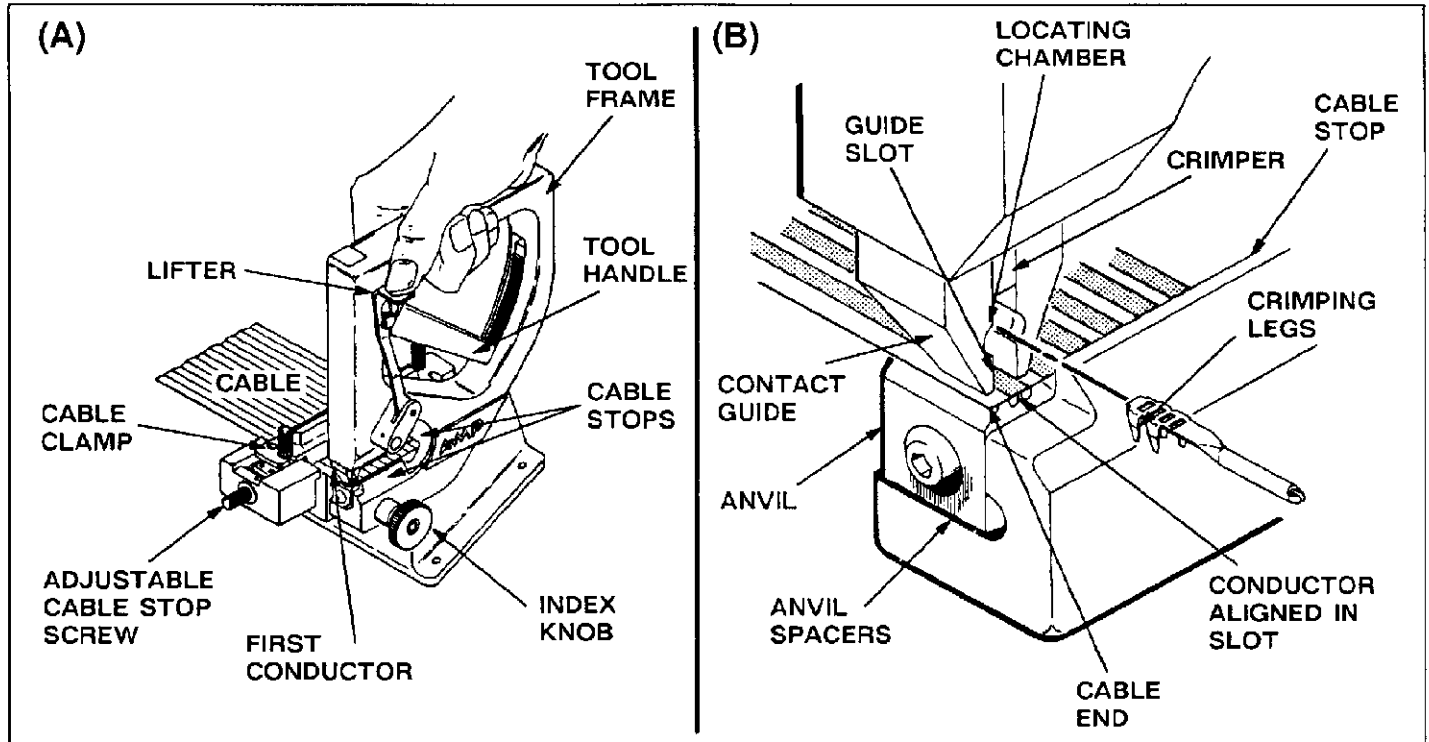

Fig. 4
3. Grasp the tool frame as shown in Figure 4(A); do NOT grasp the tool handle.
4. Raise the contact guide by depressing the lifter with your thumb. HOLD the lifter in this position. Butt the cable end against the cable stops on the crimping tool, and butt the cable side against the adjustable cable stop on the indexer. Align the first conductor with the guide slot by turning the adjustable cable stop screw and moving the cable accordingly. Refer to Figure 4(A).
6. Align the contact with the locating chamber as shown in Figure 4(B). Insert the contact straight into the guide until it bottoms.
10. With the lifter still depressed, carefully turn the index knob COUNTERCLOCKWISE until the slide advances to the next position (one click, or .100). Lower the contact guide and check that the conductor is centered in the guide slot as shown in Figure 4(B).